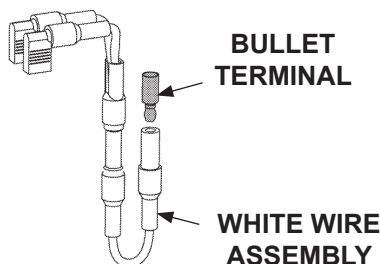
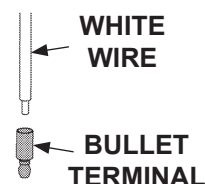
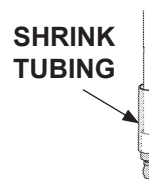
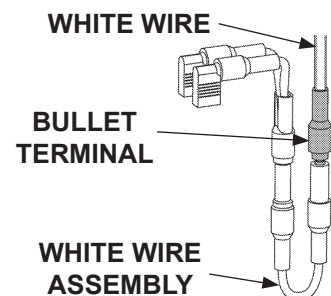

FIG. 3-3
FIG. 3-4
FIG. 3-5
FIG. 3-6
5. Connect white wire assembly (Kit item) as follows. Disconnect male bullet terminal from white wire assembly (**FIG. 3-3**). Cut terminal lug from the original white wire disconnected in step 2. Strip 1/4" insulation from disconnected white wire. Then crimp male bullet terminal on stripped end (**FIG. 3-4**). Slide shrink tubing (Kit item) over crimped portion of male bullet terminal as shown in (**FIG. 3-5**). Use heat gun to shrink the tubing in place. Connect original white wire, with male bullet terminal, to white wire assembly (**FIG. 3-6**).